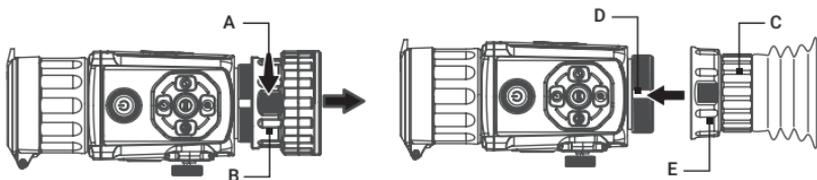

FIGURE 2-10. EYEPIECE REPLACEMENT
1. Rotate the fixing ring (Figure 2-10, A) of clip-on output lens (B) counter clockwise to remove it.
2. Align the optional monocular eyepiece (C) with the grooves (D) of device, and rotate the fixing ring of eyepiece (E) clockwise to tighten it.